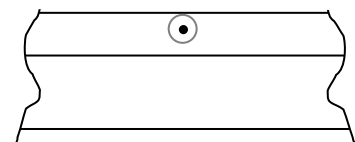

Figure 4 - Paint marking punch marks
5. Use a paint pen to mark a white circle around each punch mark to help locate the punch marks in the future (see Figure 4).